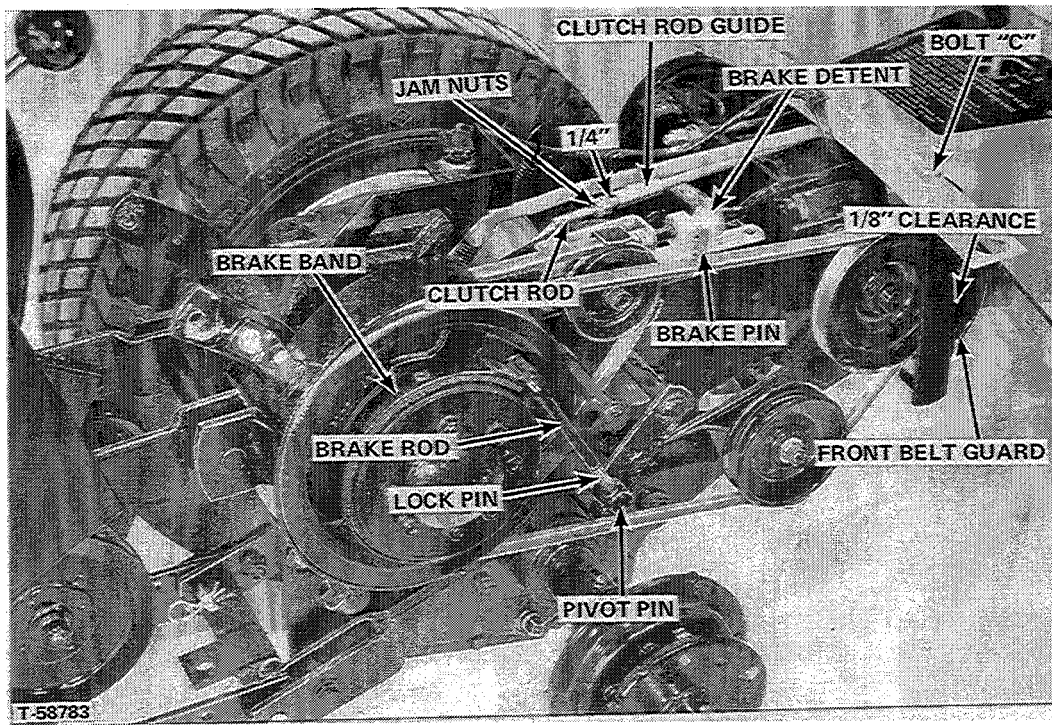

FIGURE 41
3. With clutch pedal up in engaged position adjust jam nuts on clutch rod 1/4 inch away from clutch rod guide (Figure 41).
that the belt guard does not touch the pulley or the belt at any point while clutch is fully engaged (Figure 41).
7. (Figure 41), with the shuttle clutch control lever in neutral position make sure center of notch in brake detent is centered on brake pin. If necessary loosen setscrew in detent, move it, and retighten setscrew.
10. See Figure 41. With control lever in neutral position rotate pivot pin on threads on brake rod so that when pin is reinstalled in hole in brake lever all of the slack will be taken out of brake band. Fasten pivot pin in place in brake lever with lock pin.